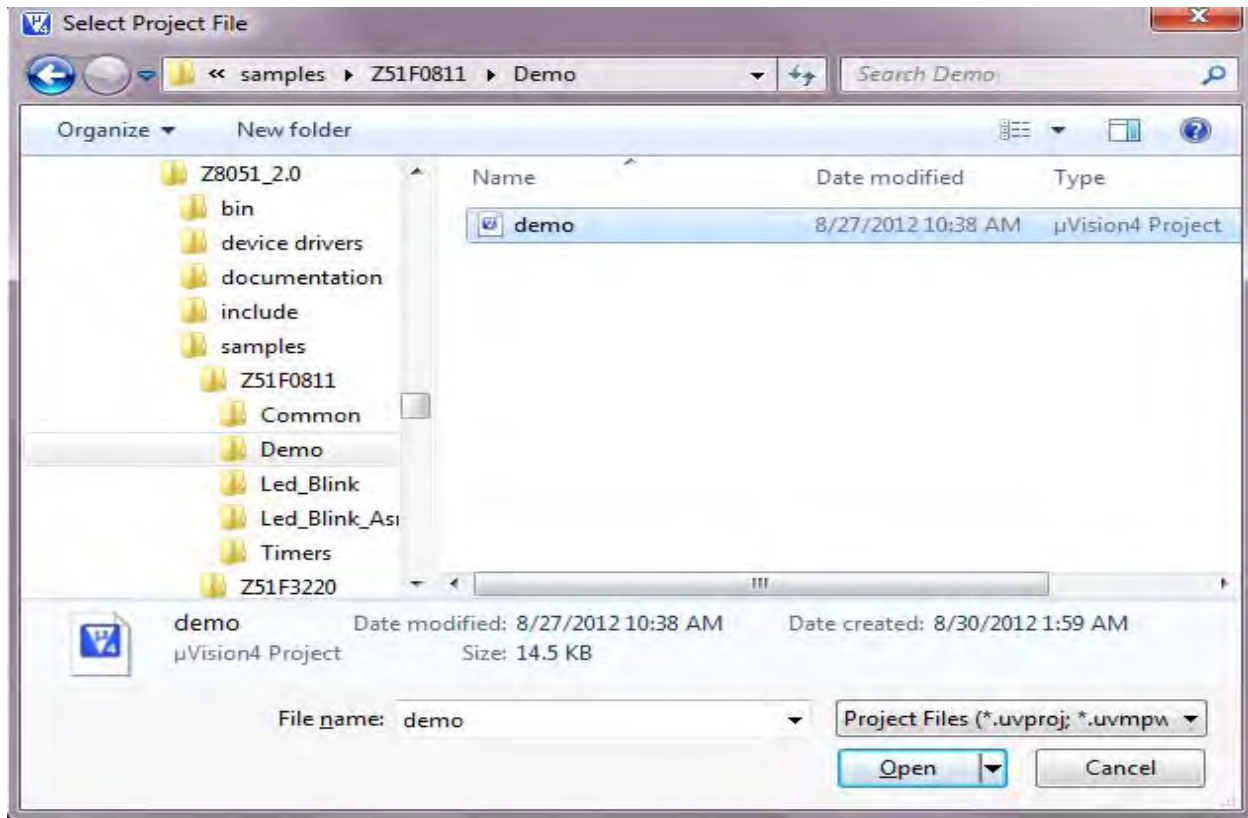

Figure 21. Selecting the Demo Project File
3. Select the Demo.uvproj file and click **Open**; see Figure 21.